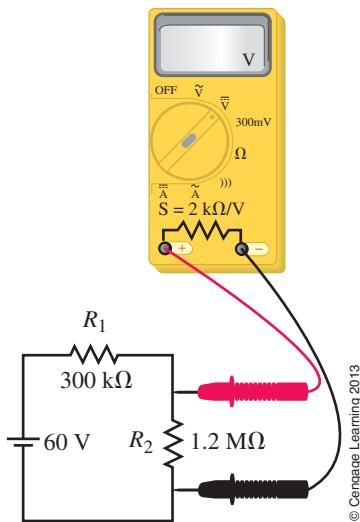

FIGURE 7-75
- 36. The voltmeter of Figure 7-75 has a sensitivity $S = 2 \text{ k}\Omega/\text{V}$.
41. Use Multisim to solve for the meter reading in the circuit of Figure 7-75 if the meter is used on its 50-V range.